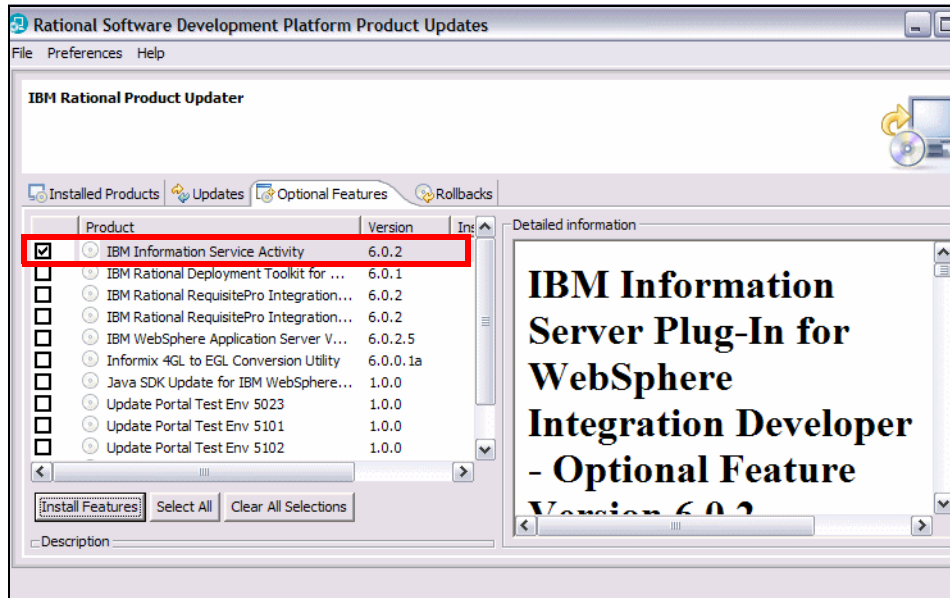

Figure A-9 Installing the information service feature
- ▶ Click *Optional Features* in Rational Product Updater. Select *IBM Information Service Activity* and click *Install Features* (Figure A-9).